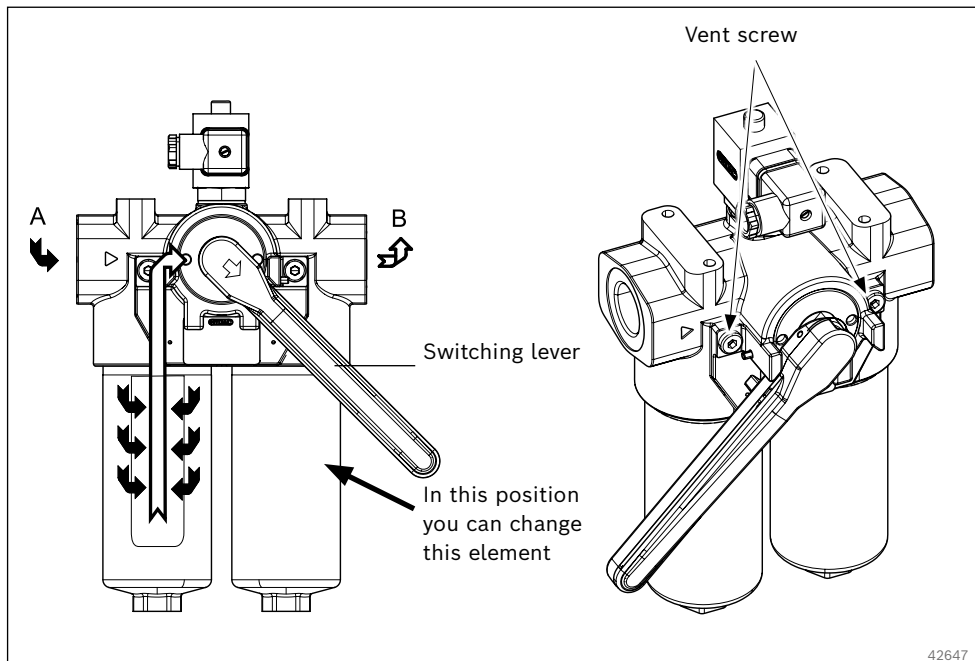

Fig. 31: Duplex filter change
2. Pull the switching lever away from filter and turn the lever through 90° to change flow direction in the filter housing, see Fig. 31.